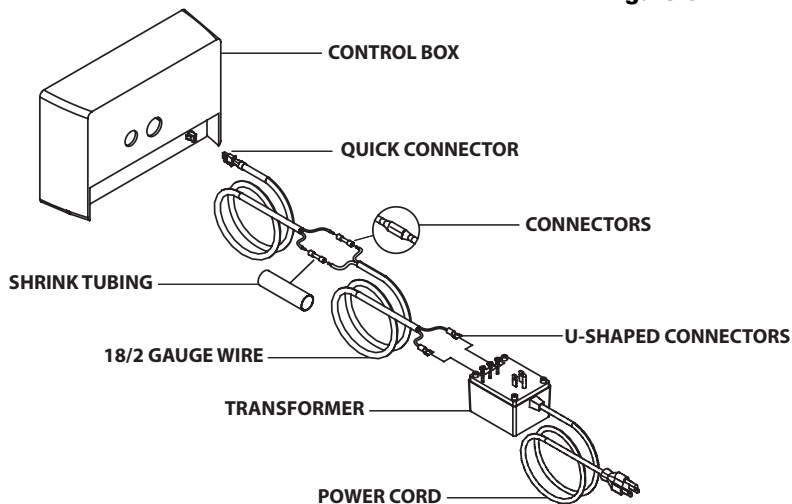

Figure 8
- Attach the U shaped connectors (supplied) to the wire with a crimping tool (not supplied). Then connect the wire to the two outside terminals on the transformer (see figure 8).
- Insert the other end of the wire, with the quick connector, into the back of the control box (see figure 8).